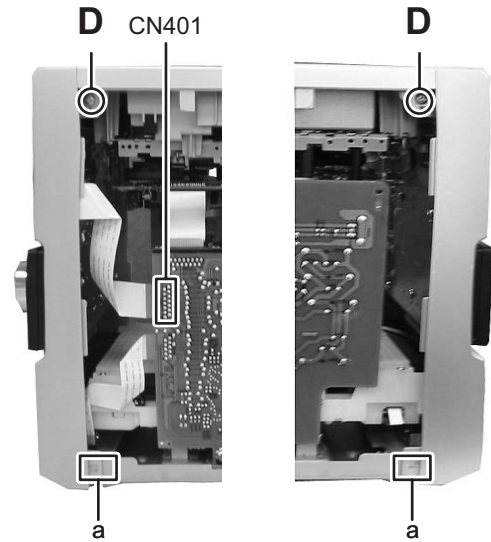

Fig.4
3.1.2 Removing the front panel assembly (See Fig.4)
3.2.3 Removing the traverse mechanism assembly (See Fig.4)